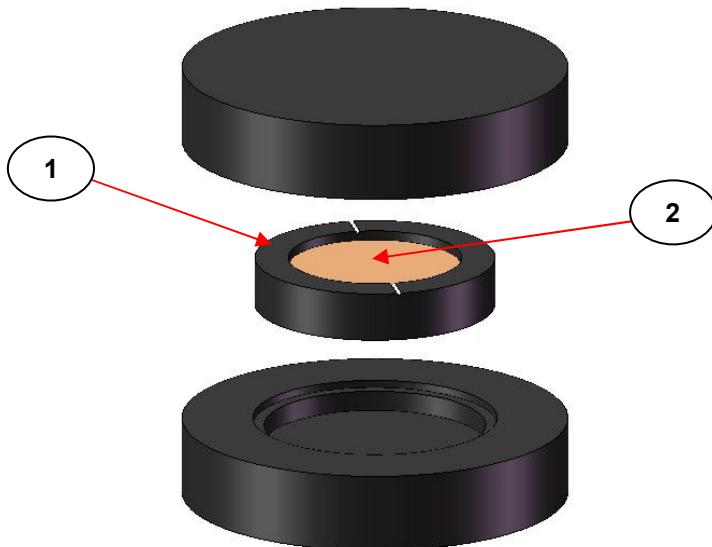

Fig 1. GS57500 Series Polarizer as Supplied in Packing Covers
As mentioned in Section 2, when removing the GS57500 Series polarizer from its packing, be very careful in its handling. The polarizer components (1) and (2) are held between two plastic lens cap covers with plastic tape wrapped around the circumference to seal the cap covers together. Carefully peel the tape away to gain access to polarizer assembly (1) and (2). (See Fig 1.)